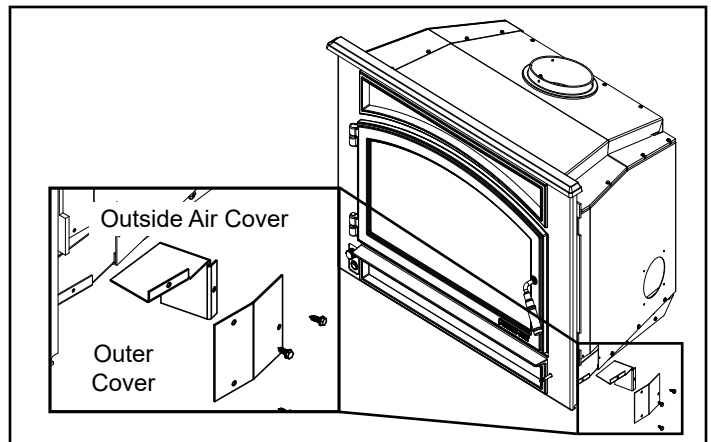

Figure 5.1
2. Remove screws holding outer cover in place. Place outside air cover in channel as shown (outside air cover is located in component pack). re-install outer cover. (Figure 5.1)